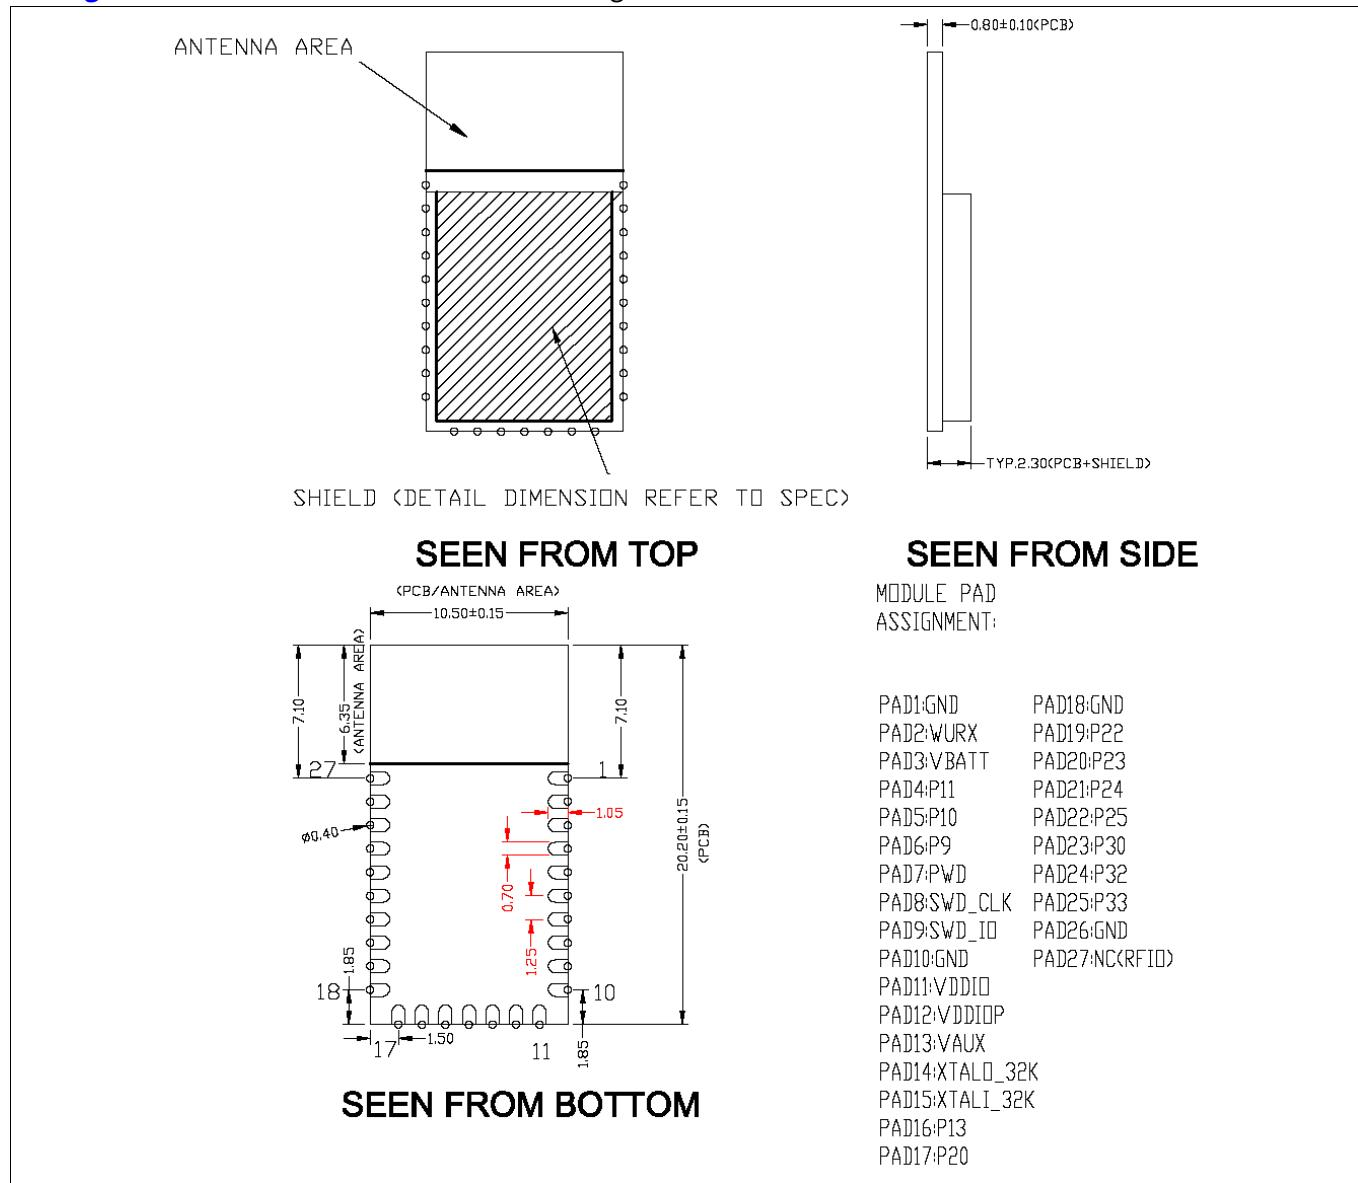
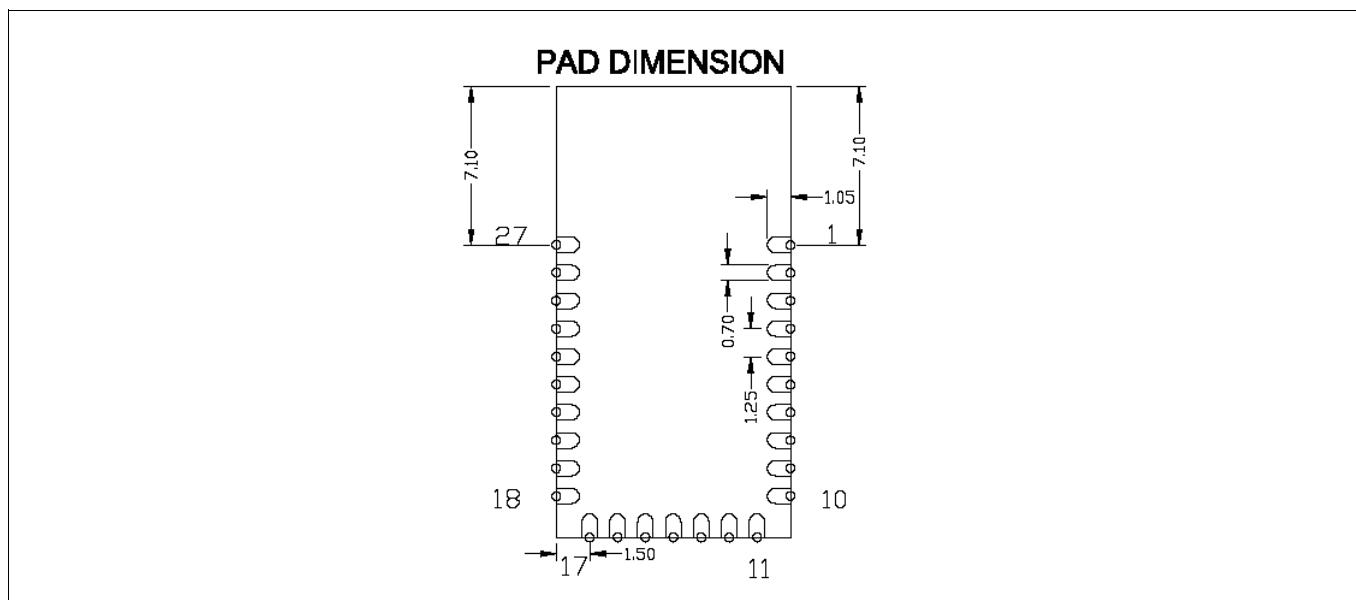

Figure 2 **Module mechanical drawing**
Figure 3 Solder pad dimensions (seen from bottom)
Infineon reserves the right to select components from various vendors to achieve the Bluetooth® module functionality. Such selections will still guarantee that all mechanical specifications and module certifications are maintained. Designs should be held within the physical dimensions shown in the mechanical drawings in **Figure 2**. All dimensions are in millimeters (mm).
See Figure 2 for the mechanical reference drawing for CYW20822-P4xxI040.
As shown in the bottom view of Figure 2, CYW20822-P4xxI040 connects to the host board via solder pads on the backside of the module. Table 2 and Figure 3 detail the solder pad length, width, and pitch dimensions of CYW20822-P4xxI040 module.
1. Antenna Area Keepout: The host board directly below the antenna area of the module (see Figure 2) must not contain ground or signal traces. This keepout area requirement applies to all layers of the host board.
2. Module Placement: The ideal placement of the Bluetooth® module is in a corner of the host board with the PCB trace antenna located at the far corner. This placement minimizes the additional recommended keepout area stated in item 2. See AN96841 for module placement best practices.